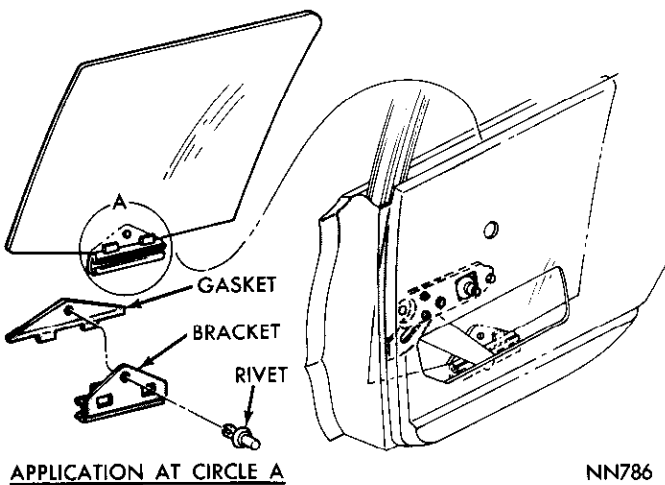

Fig. 41—Door Glass Replacement
- (1) Loosen division channel lower screw (Fig. 41) and move glass out of run channel.
- (2) Move glass to the rear and remove regulator arm from lift bracket.
- (3) Remove glass from door.
- (4) Push plug out of lift bracket rivet (Fig. 41) pinch ends of rivet together and out of glass.